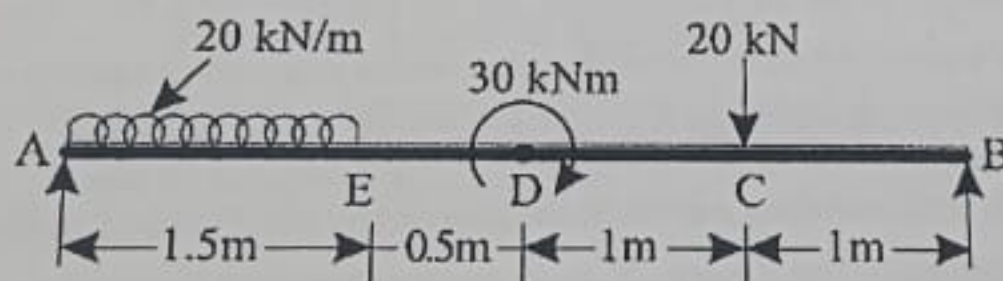

Figure 1
1. Figure 1. shows a beam AB of length 4 m acted upon by the forces and moments. CO2 BL3